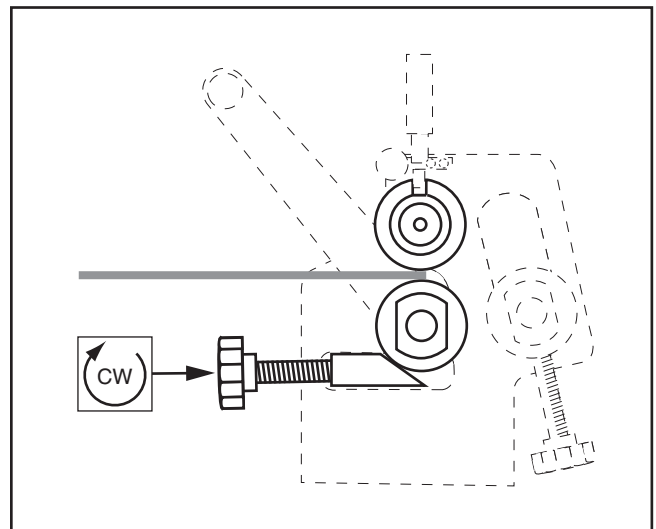

Figure 16. Raising lower roller.
3. Place workpiece between upper and lower rollers, as shown in **Figure 16**. Turn thickness adjustment knobs to raise lower roller until workpiece is held snugly between upper and lower rollers. Make sure to turn knobs equal amounts so lower roller is parallel with upper roller.